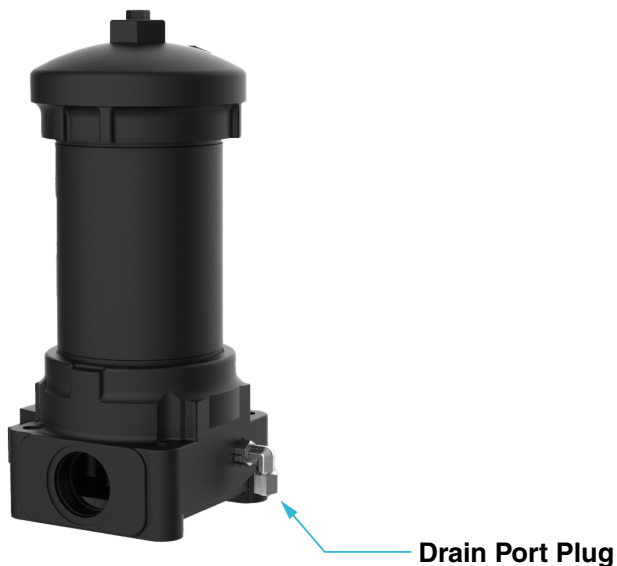

Figure 19 High Pressure Filter (Drain Port Plug)
3. If desired, oil can be drained from filter housing by removing the drain port plug located in the head. See Figure 19.